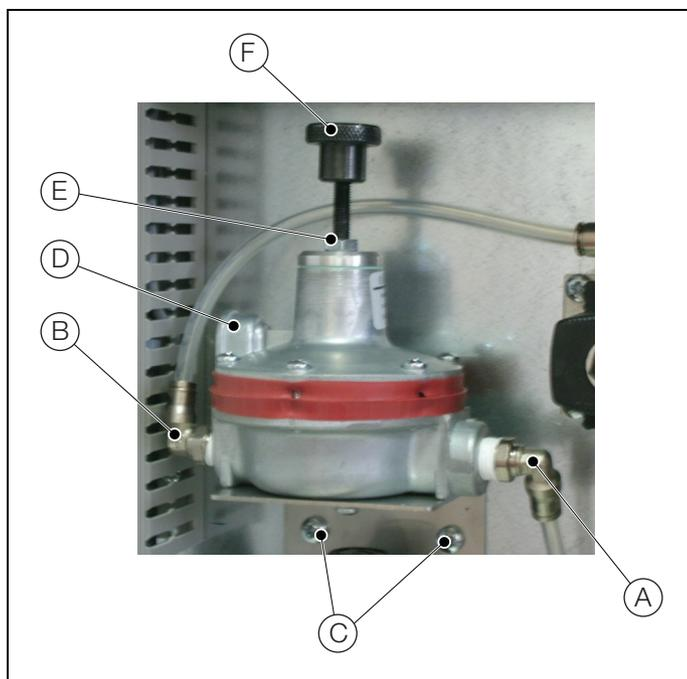

Fig. 5.7 Span pressure regulator replacement
4. Referring to Fig. 5.7:
- a. Pull the inlet pipe from inlet fitting (A).
- b. Pull the outlet pipe from outlet fitting (B).
- c. Remove 2 x M5 screws (C) securing the span pressure regulator to the enclosure the back plate and remove the span pressure regulator.
- d. Remove inlet and outlet fittings (A) and (B). Clean the PTFE tape from the fittings' threads.
- e. Apply PTFE tape to the fittings' threads and fit inlet and outlet fittings (A) and (B) to the new span pressure regulator.